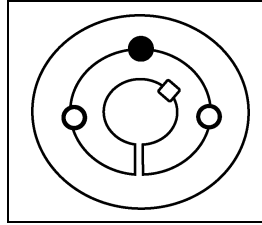

Figure 4A Number 1008 to 3030 Bushing
3. Lightly oil set screws and thread into the half-threaded holes indicated as in Figure 4A.
2. Insert screws in hole or holes indicated on Figure 4A. Loosen the bushing by tightening the screw(s).